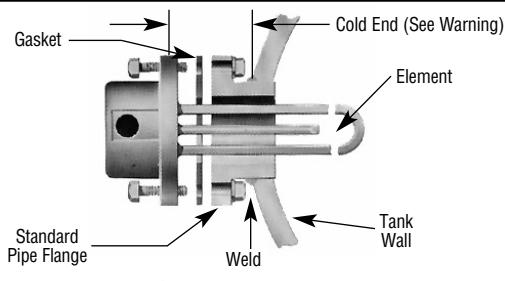

Figure 2 - Flanged Mounting
7. The gasket surface must be clean and dry before the heater is seated (see Figure 2).